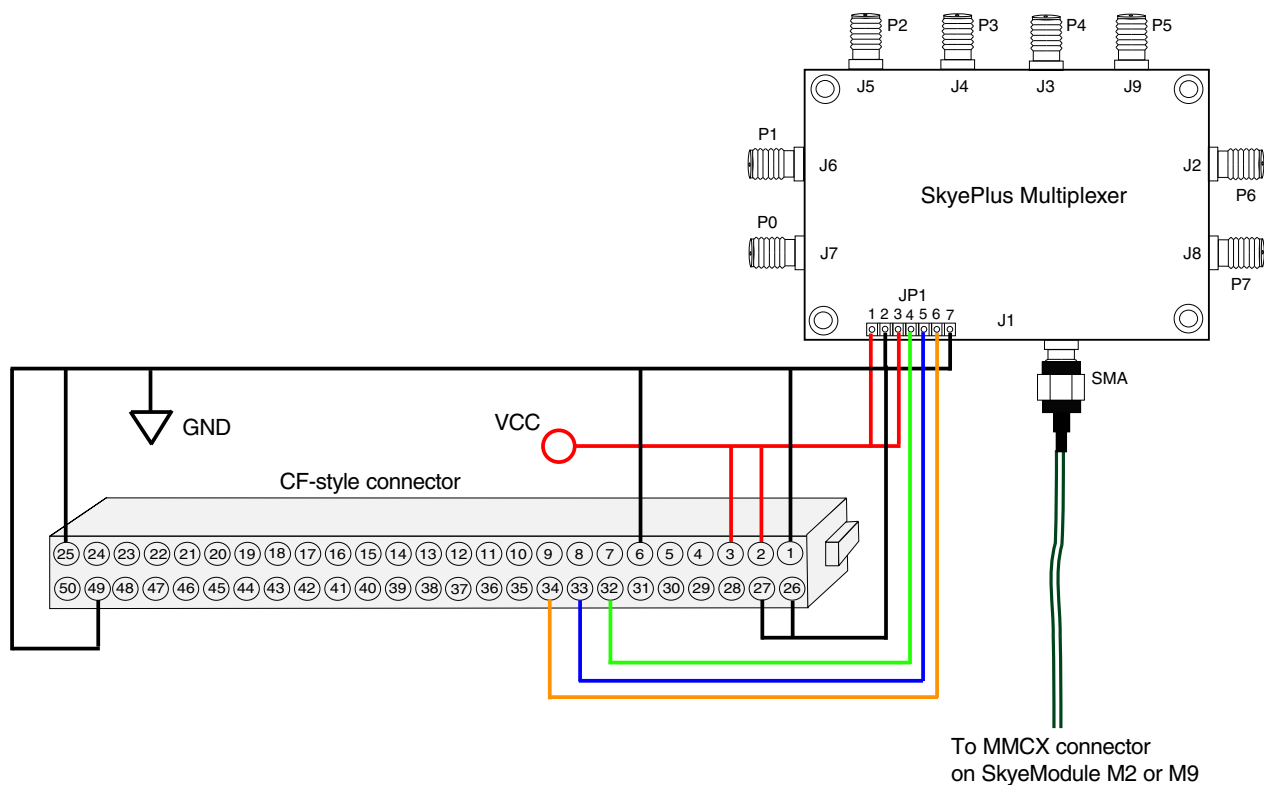

Figure 3-3 Custom Connection Through CF-style Connector
- Figure 3-3 illustrates the pin and antenna connections.